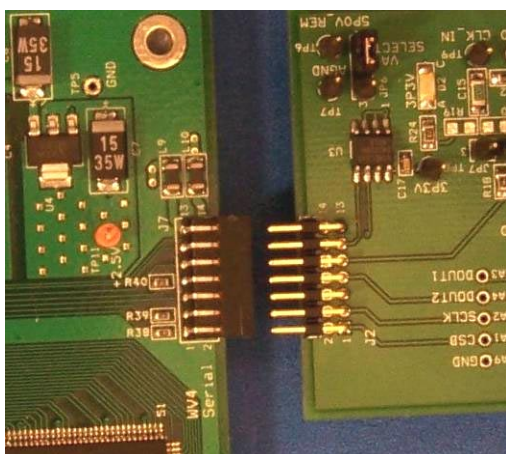
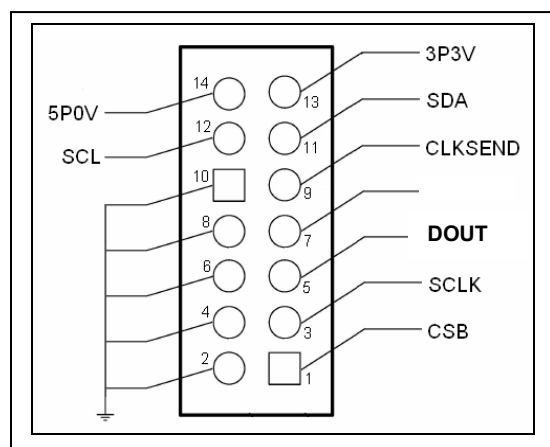
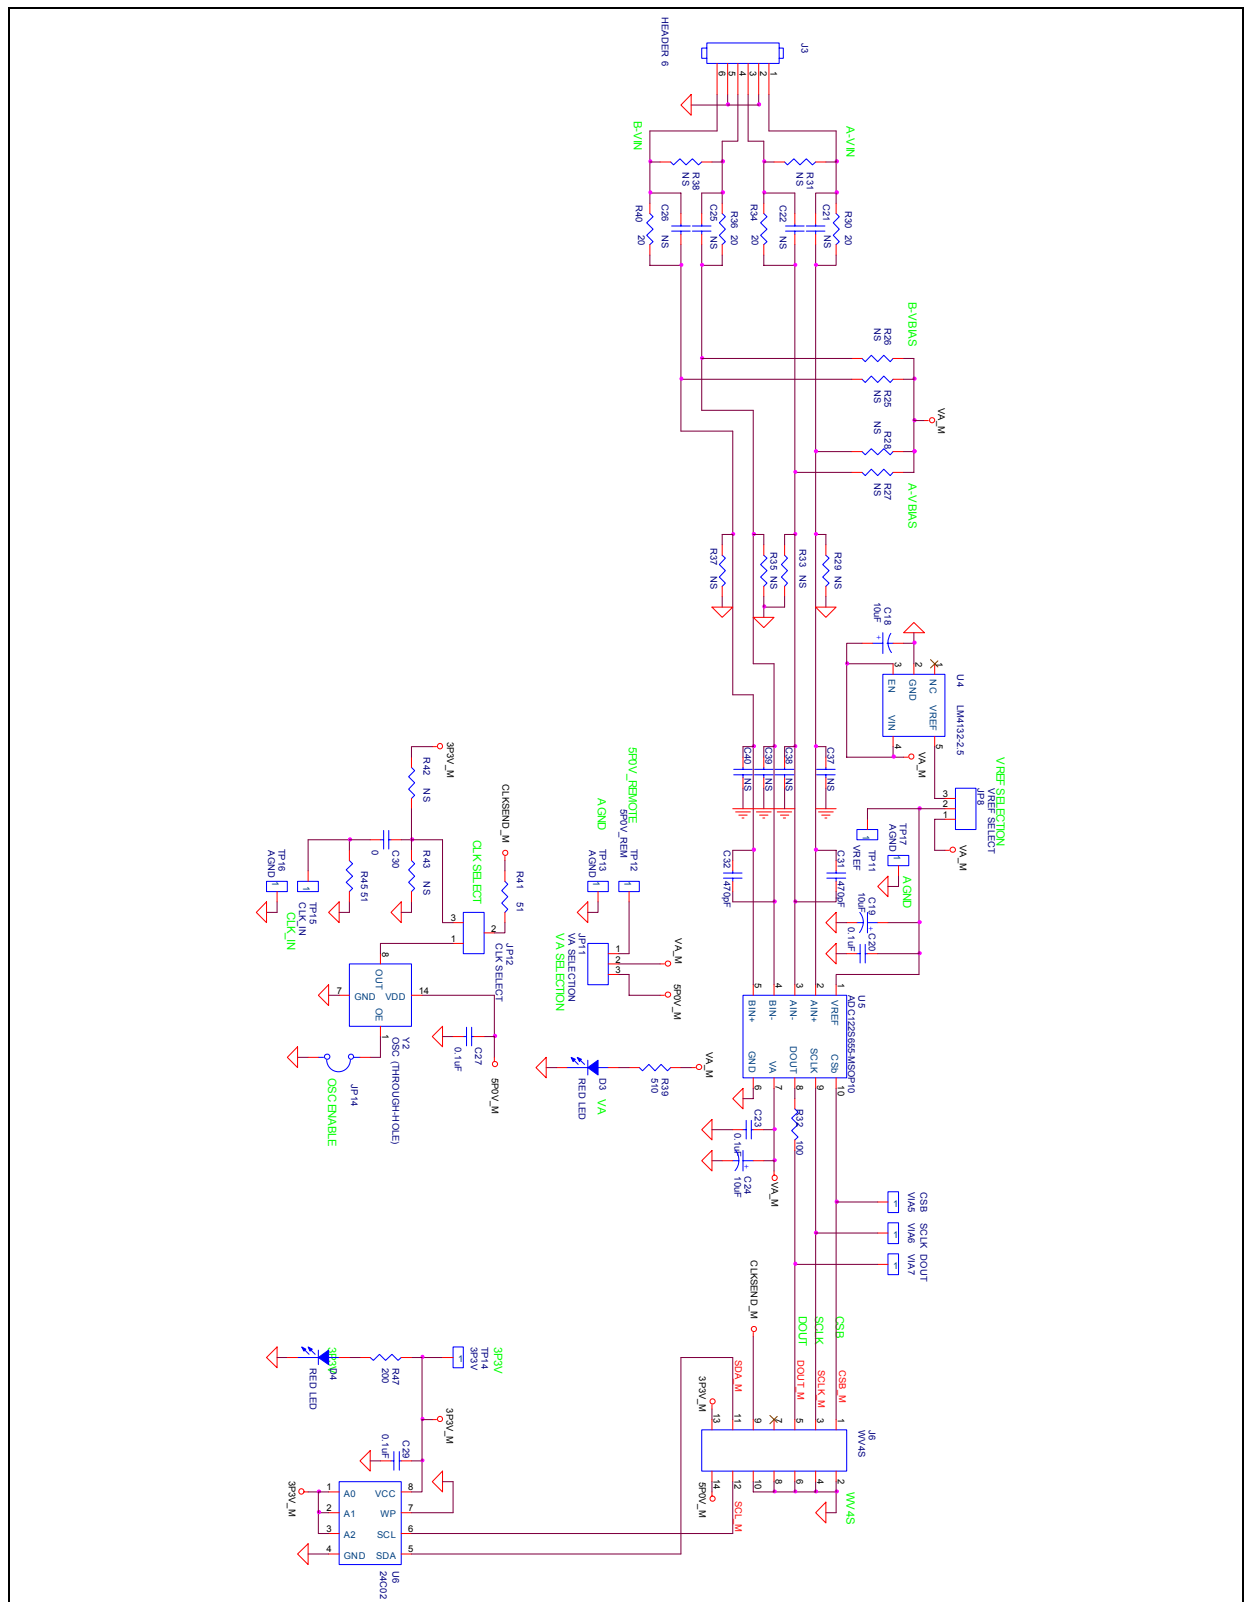

Figure 4: WV4 to ADC122S655 Connection
Figure 5: J6 (WV4S) Header Pin Out
Figure 10: ADC122S655 Evaluation Board Schematic
7. Apply the signals to control the SPI interface at J6 or VIA5 to VIA7. See the evaluation board schematic (Figure 10) or the J6 header pin out (Figure 5) for more details.
3. Connect the **J6** header on the ADC122S655 evaluation board to the **J7** WV4 serial connector on the WV4 board. Refer to Figure 4 for the serial connection and Figure 5 for the J6 header pin out.
Table 1 describes the function of the various jumpers on the ADC122S655 evaluation board. The evaluation board schematic is shown in Figure 10.
The ADC122S655 takes two input signals (channel A and channel B) and outputs to a single data output line (DOUT). The output format is 2's complement with channel A's conversion result followed by channel B's conversion result. The DOUT can be monitored at VIA7 or pin 5 of J6. In computer mode, the DOUT is by the use of the WV4 board and WaveVision 4 software. See the Evaluation Board schematic (Figure 10) and ADC122S655 datasheet for further details.